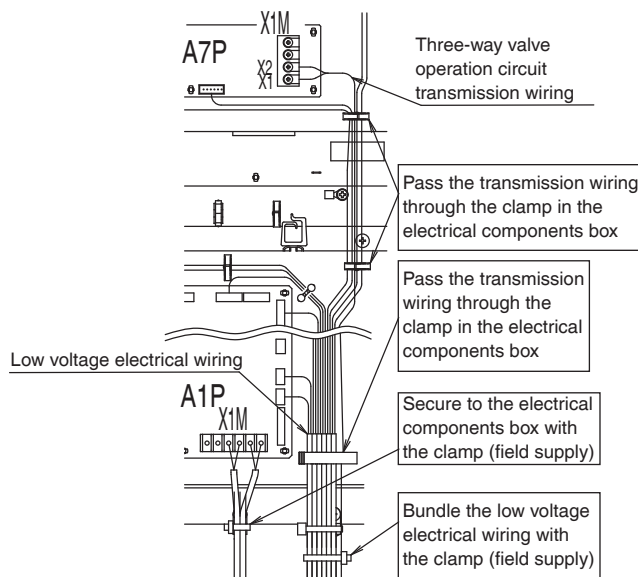
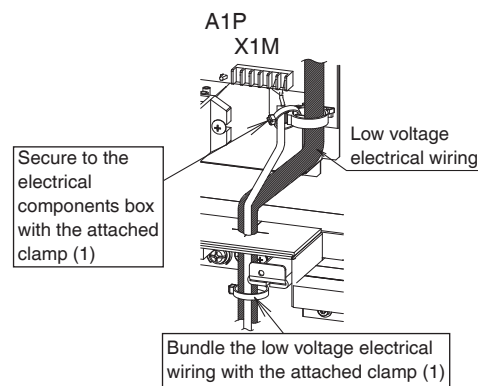

Fig. 21 Secure the transmission wiring (cascade unit)
Fig. 22 Secure the transmission wiring (heat source unit)
- In the electrical components box, secure the transmission wiring to the electrical components box with the clamps as in Fig. 21 and Fig. 22. Use the supplied clamps for the heat source unit and separately prepare clamps for the cascade unit.